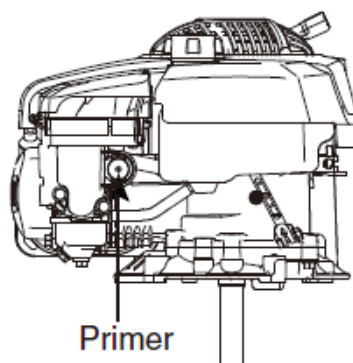

Figure 7
1. Press the primer three times (Figure 7)